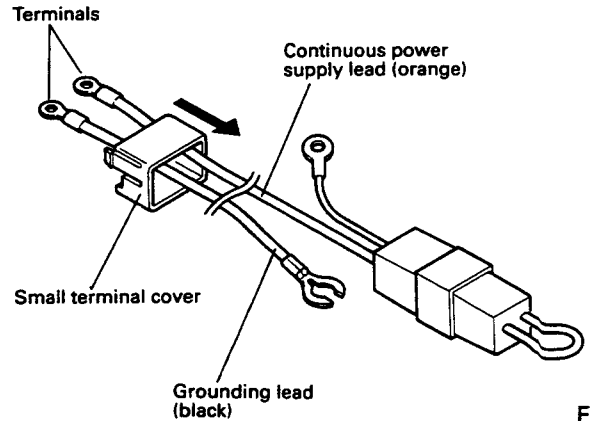

Fig. 9
1. Pass the continuous power supply lead (orange) and the grounding lead (black) through the small terminal cover. (Fig. 9)